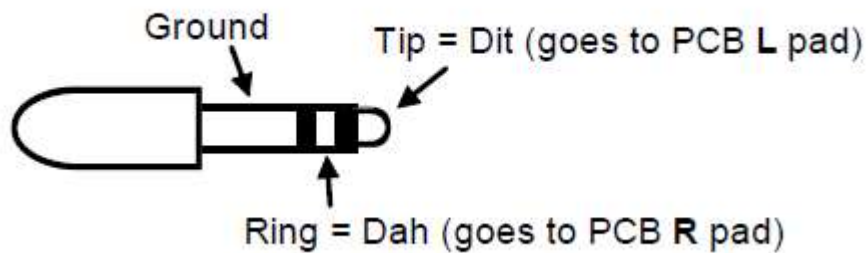

Figure 5 – Paddle Connector Pinout
- 16) Now is a good time to wire up the paddle interface, there are three leads; left paddle to **L**, right paddle to **R**, and common ground to **G**. (See Fig 5. page 6 for more details)
Fig 5 illustrates the most common way paddle set plugs are wired. The mating jack on WK3serial should be wired to work with this convention.